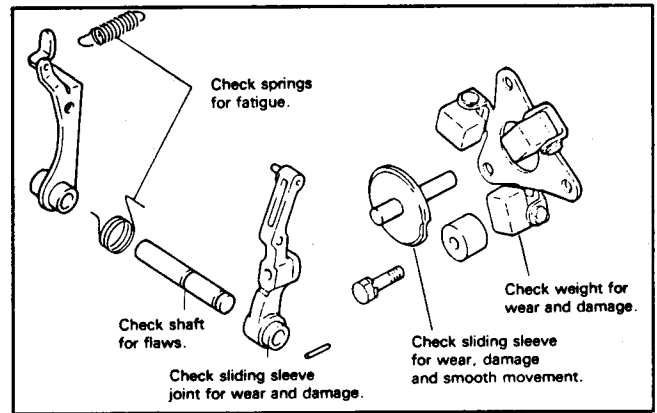

Figure 74
8. Check the governor parts for wear or damage (Fig 74).